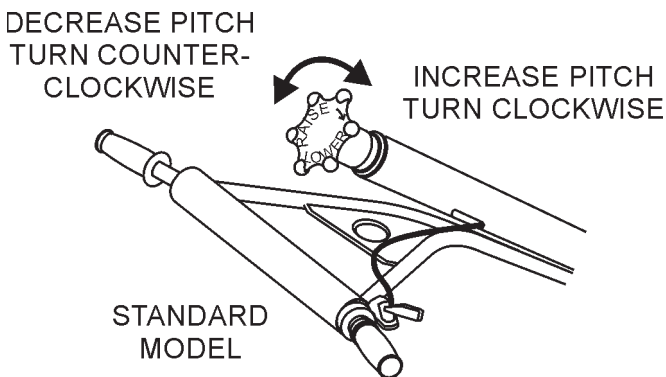

Figure 23. Pitching the Blades
1. To pitch the blades upwards using the "**Standard**" handle, (Figure 23) simply turn the **star-wheel** clockwise. Turning the star wheel counter clockwise will cause the blades to lay flat.